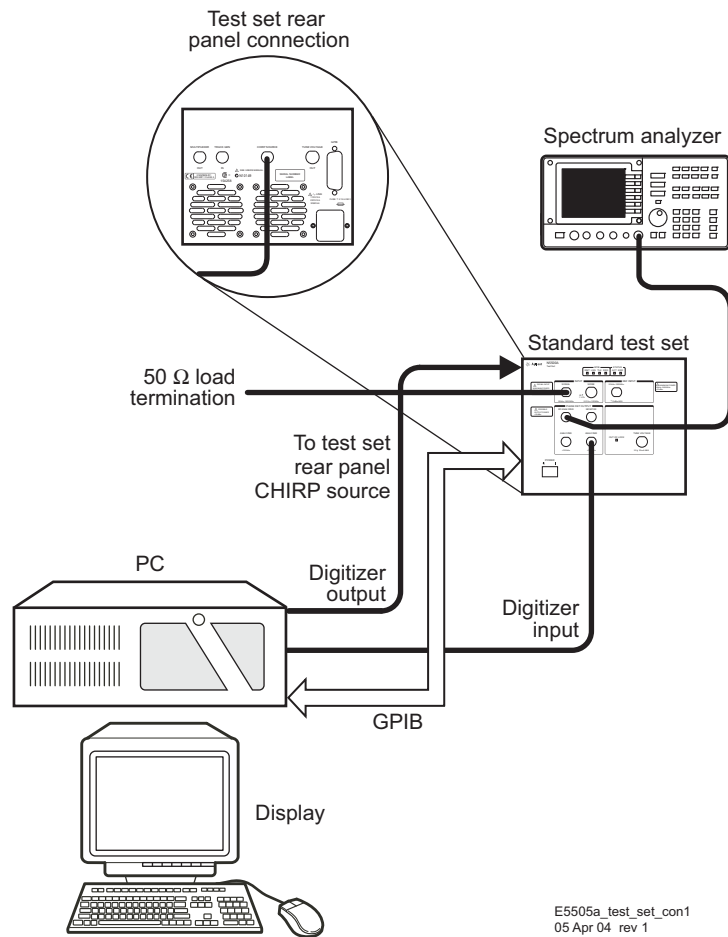
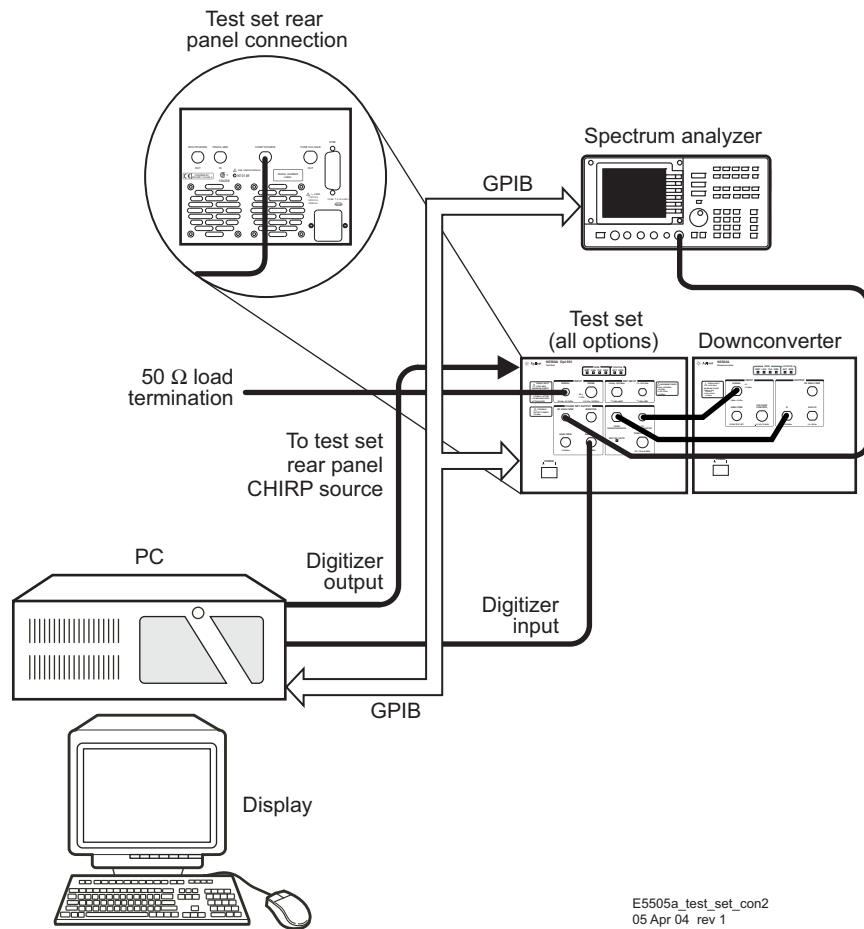

Figure 322 Test set connection, standard model
Figure 323 Test set (options 001 and 201) and downconverter connection
- Refer to Figure 322 below and Figure 323 on page 428 for examples of system interconnections.